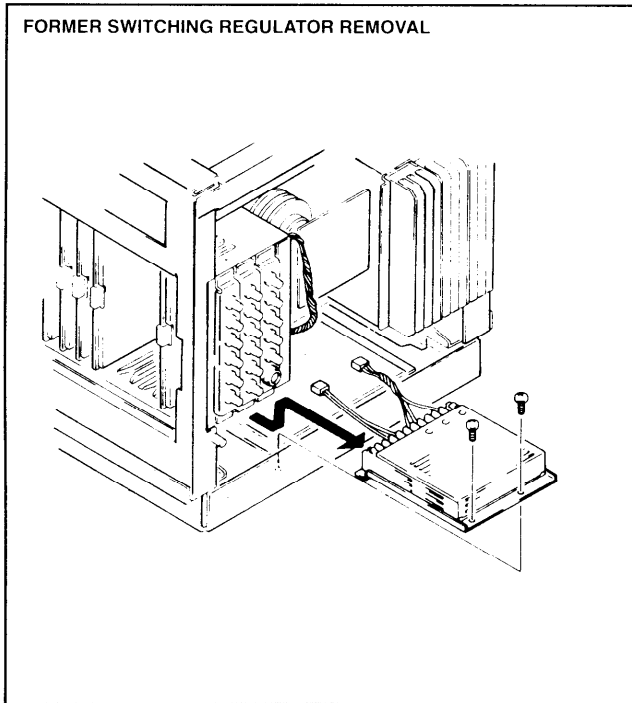

Figure 2
3. Remove the former switching regulator, disconnecting wires as shown in Figure 2.